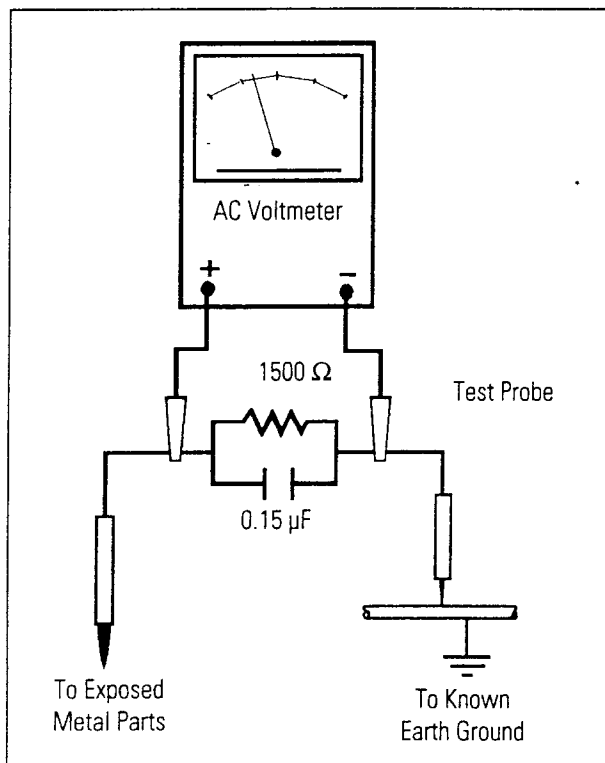

Figure1-1. Leakage Current Test Circuit
- c. Use a SSVM or VOM with 1000 ohms per-volt or higher sensitivity to measure the AC voltage drop across the resistor (see Figure 1-1).